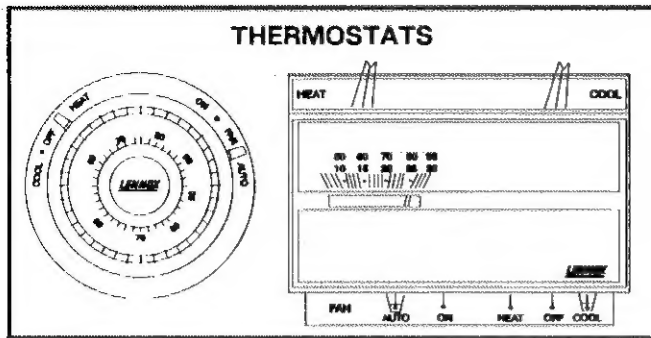

FIGURE 3
- 2- Set thermostat to lowest setting. See figure 3.